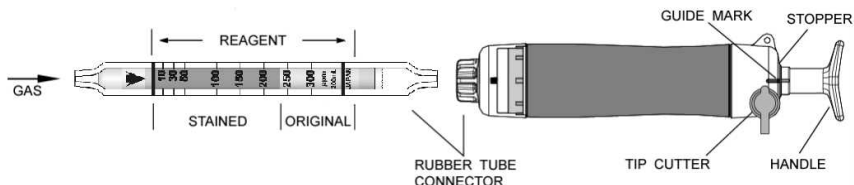

Fig.1
- ② Insert the detector tube into the aspirating pump securely as shown in Fig.1. (Arrow mark shall point to the pump.)
- ③ Align the guide marks on the shaft and stopper of the aspirating pump.
- ④ Pull the pump handle at a full stroke until it locks and wait for 1.5 minutes or until the completion of sampling is confirmed with the flow indicator of the pump (See descriptions about the flow indicator in the instruction manual of the pump).
- ⑤ Turn the pump handle right or left by 1/4 (90°), push back the handle without removing the detector tube from the pump. Then repeat the steps ③~④ once more.
- ⑥ On completion of sampling, read the scale at the maximum point of the stained layer.
- ⑦ When the concentration is below the scale range, 4 pump strokes can be used to determine concentrations of 4 to 120 ppm.